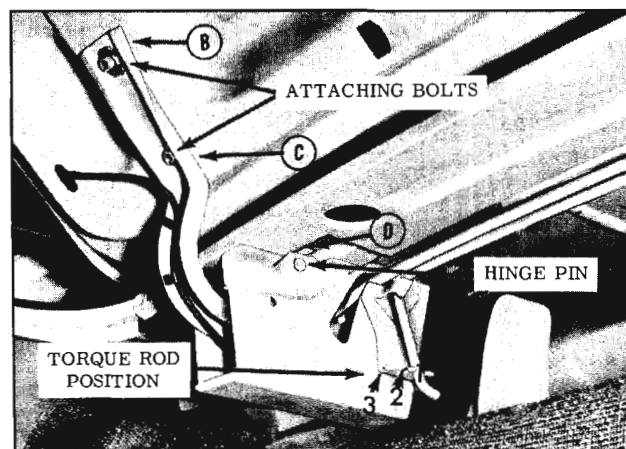

Fig. 16-96 Rear Compartment Hinge and Torque Rod
4. With aid of helper, remove lid attaching bolts (Fig. 16-96) and remove rear compartment lid.
- a. To raise front edge of lid at hinge area, place shim between lid inner panel and forward portion of one or both hinge straps at "C". (Fig. 16-96)
- b. To lower front edge of lid at hinge area, place shim between lid inner panel and rearward portion of one or both hinge straps at "B". (Fig. 16-96)
4. With a suitable tool, disengage torque rod from notched retainer on inboard face of opposite hinge box. (Fig. 16-96)
6. Bend up hinge pin retaining tab on inboard face of hinge box "D" (Fig. 16-96), remove hinge pin and then remove hinge from box.
The amount of effort required to open and close the rear compartment lid is determined by the position of the torque rod in the notches on the inboard face of the hinge boxes. If the torque rod is located in the lowest most forward notch (position #1), the amount of effort required to open the lid is the greatest and the amount of effort required to close the lid is the least. If the torque rod is located in the top or most rearward notch (position #3) the amount of effort to open the lid is the least and the amount of effort to close the lid is the greatest. (Fig. 16-96)